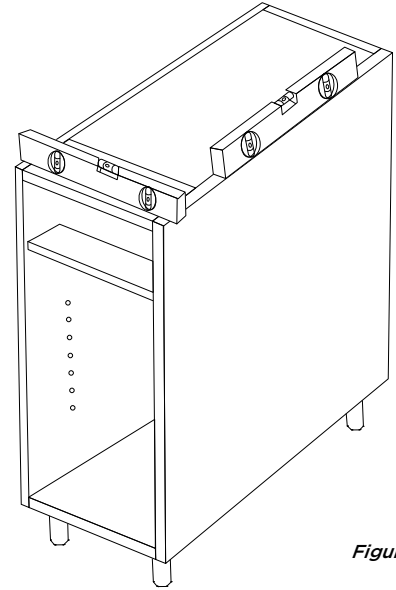

Figure 6
2. Adjust the height of the cabinet's legs to get a total cabinet height of approximately 34 1/2". Use a level to ensure the cabinet is level from front to back and side to side (Figure 6). Make necessary leg adjustments until the cabinet is level in both directions.